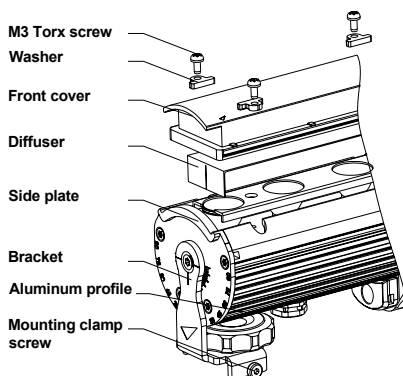

Figure 34: Tripix 300/1200 diffuser location
3. Remove the front cover screws and the front cover (See Figure 34).